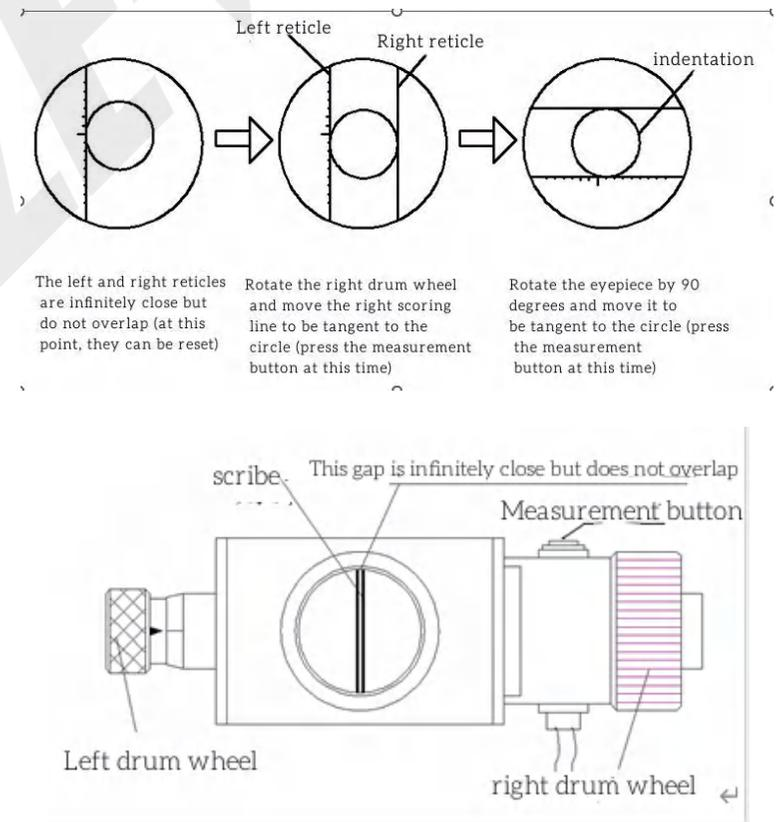

Figure 7
7. Rotate the right drum wheel (18) and move the reticle in the eyepiece to gradually bring the two reticles closer. When the inner side of the reticle is infinitely close (there is a critical state of no light gap between the inner sides of the reticle, but the two reticles must not overlap), press the "reset key". At this point, the d1: value on the main screen is zero, which is the zero position in the terminology. At this point, the diagonal length of the indentation can be measured in the micrometer eyepiece (9). (Figure 7)
8. Rotate the right drum (18) to separate the scoring lines, then move the left drum (15) to move the left scoring line. When the inner side of the left scoring line is tangent to the intersection point of the left contour of the indentation, move the right scoring line again to make the inner side tangent to the intersection point of the indentation contour (Figure 7). After measuring, press the measurement button (17) on the eyepiece to complete the measurement of the diameter length d1 of the circular indentation; Rotate the eyepiece (7) 90 ° and measure the length d2 of the circular diameter using the above method. Press the measurement button (17), and the screen will display the displayed values for this measurement and the converted hardness values. If you believe there is an error in the measurement, you can repeat the above procedure to measure again.